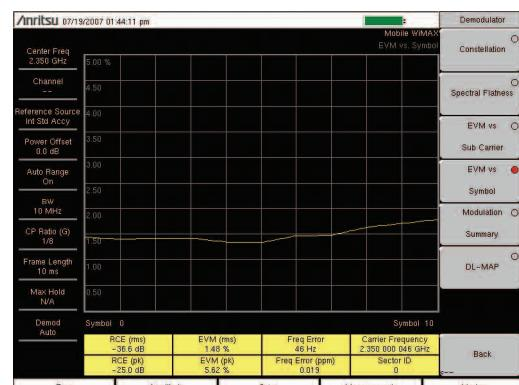

Figure 8. EVM versus Symbol view.
2. Press the EVM versus Symbol soft key to activate the measurement. The red dot on the soft key indicates it is selected (Figure 8).